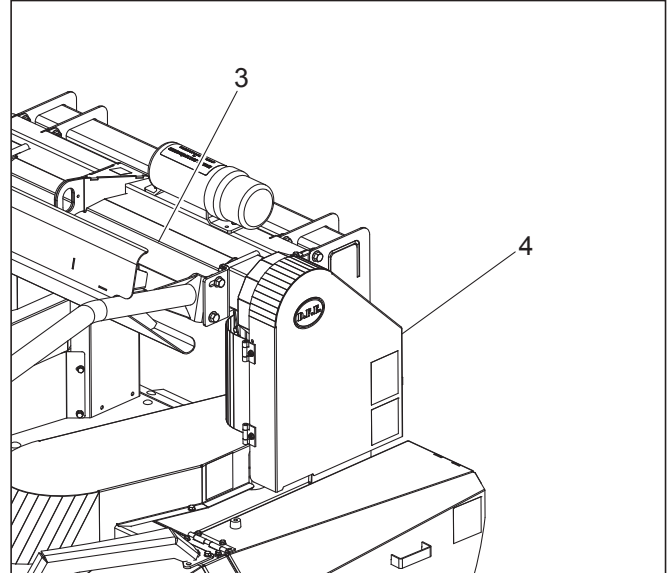

Figure 3 Intermediate chain guard (item 4) and drive shaft guard (item 3)
An hinged guard covers the intermediate chain (item 3 in figure 3).